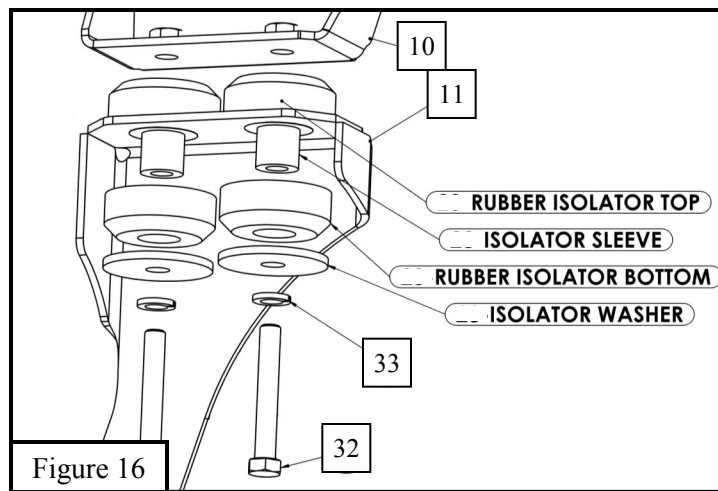

Figure 16
15. Install Bottom Isolator Bracket (Item 11) to previously mounted Top Isolator Bracket (Item 10) with supplied Isolator Kit (Item 12) and M12 Hardware. Assemble loosely. See **Figure 16**